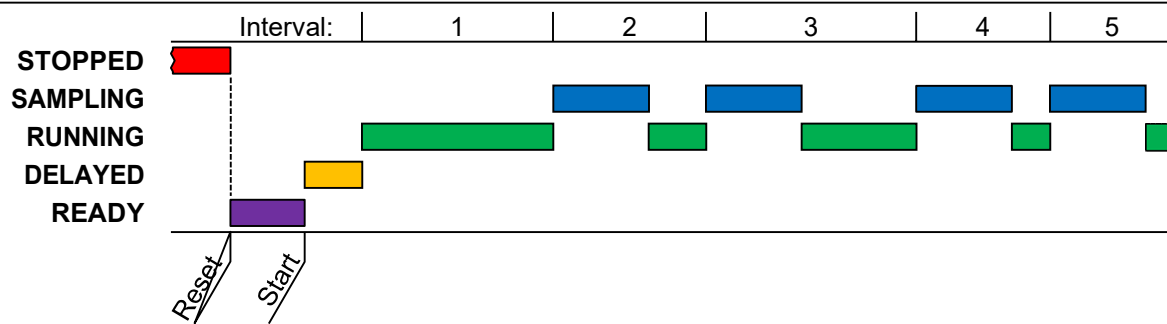

Figure A-3: Basic Sample Timing Diagram
- If a non-zero value (up to 9999 minutes) has been assigned to the Delay Start run Option (Chapter 4.6.2) the first sampling interval will be further delayed by that many minutes (see Figure A-3 Appendix A.3.2). Until then, the program will display its operating state as DELAYED.